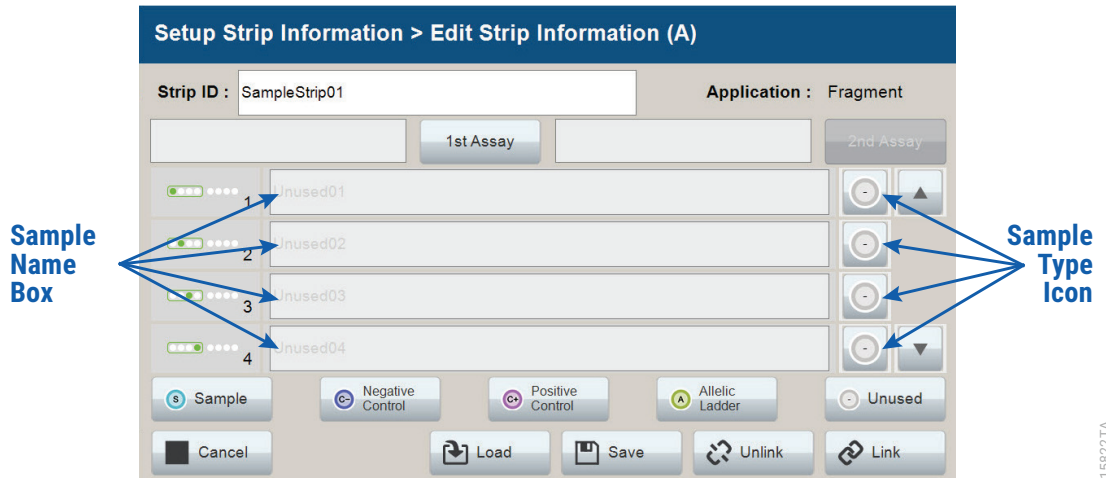
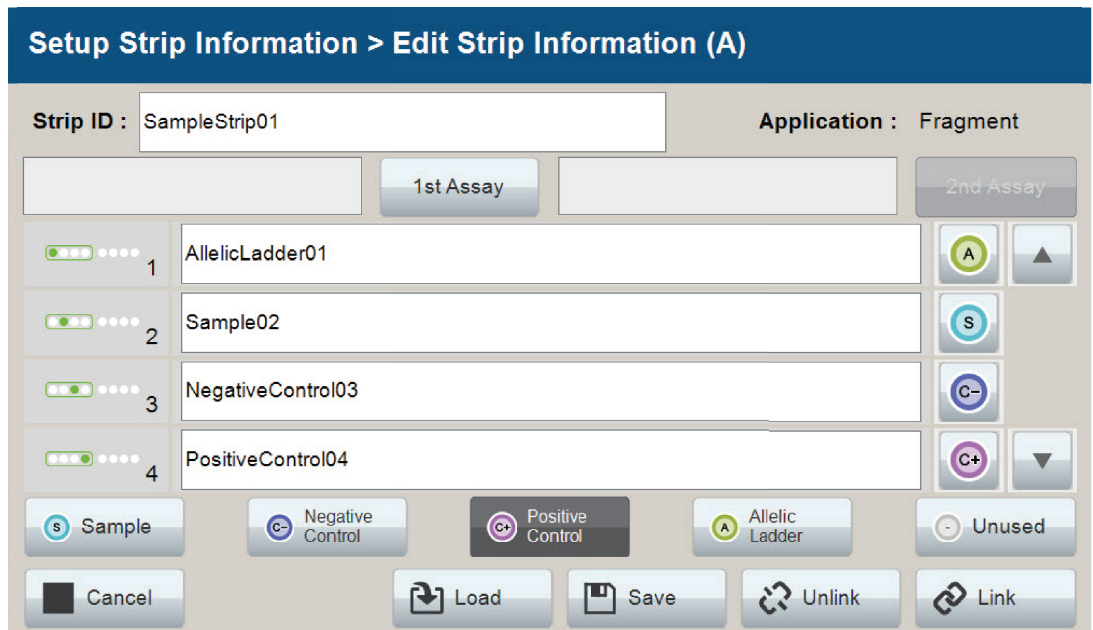
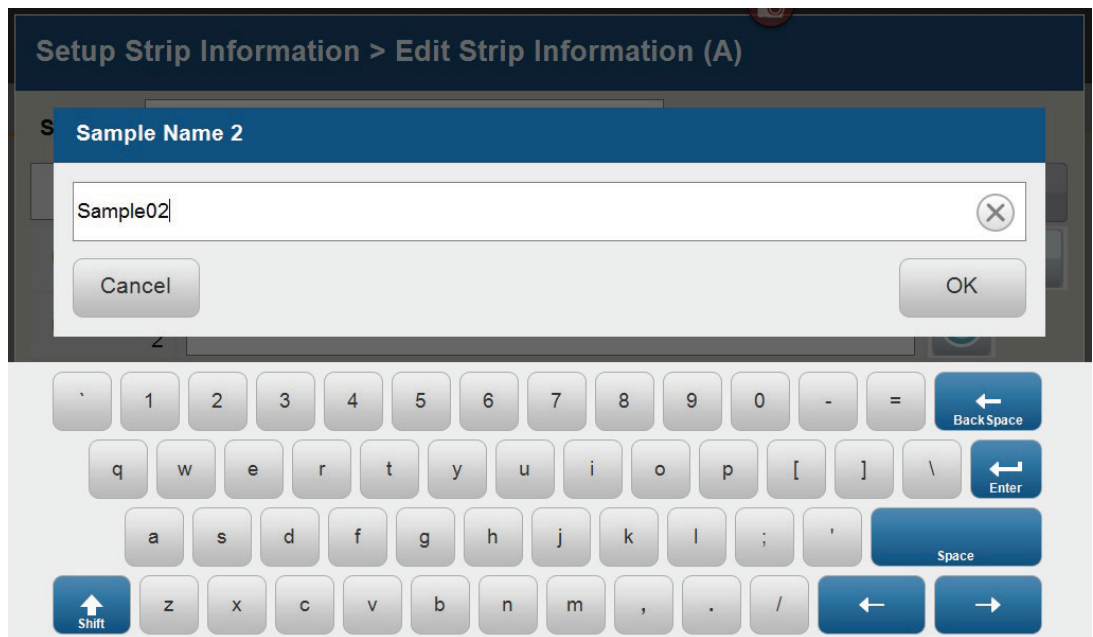
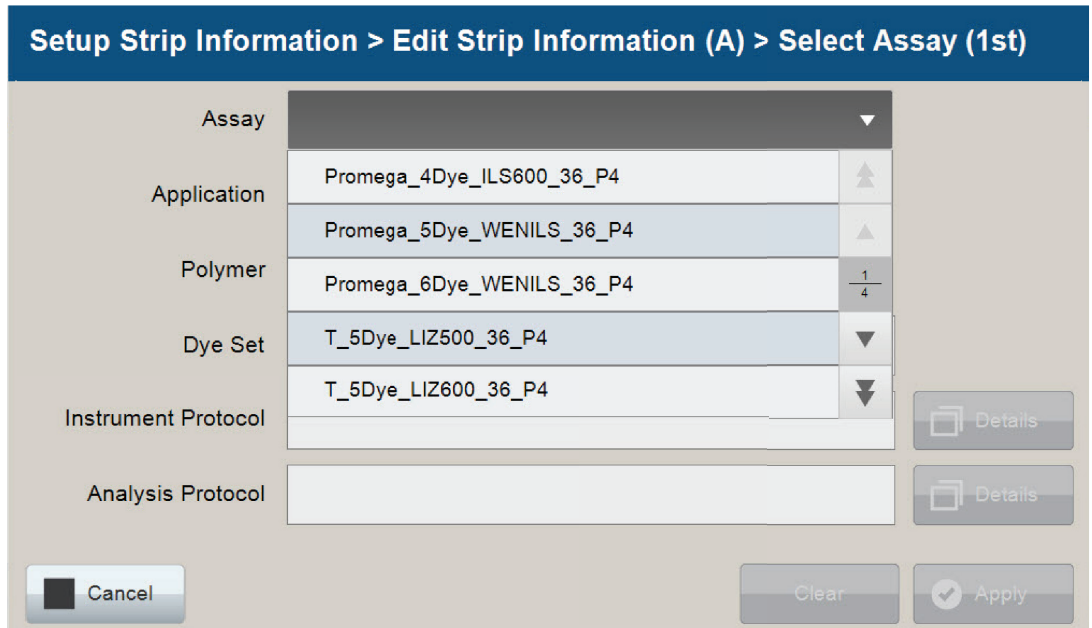

Figure 15. Sample Type and Sample Name on ‘Edit Strip Information’ screen.
Figure 16. Sample Name Entry on 'Edit Strip Information' screen.
Figure 17. 'Set Sample Name' window.
Figure 18. 'Select Assay' window.
4. Select a sample type on the ‘Edit Strip Information’ screen (Figure 15). Sample types must be selected for each well position before the Sample Name box becomes active for entry of sample name. Sample types are as follows.
5. To assign a sample type to a well, select the appropriate sample type along the bottom of the ‘Edit Strip Information’ screen (Figure 15), then select the **Sample Type** icon to the right of the sample name field for the desired well. This icon will then display the sample type selected for that well (Figure 16).
6. Enter a sample name for each well position by selecting the Sample Name box adjacent to the well number on the ‘Edit Strip Information’ screen (Figure 16). This opens the ‘Set Sample Name’ window and a keypad will become active on the touch screen (Figure 17). Alternatively, the Sample Name can be entered using a traditional keyboard if one is connected to the Spectrum Compact CE System. Enter the appropriate sample name, then select **OK** to exit and return to the ‘Edit Strip Information’ screen.
- The Spectrum Compact Control Software includes preloaded run assays for use with chemistries available from Promega. Refer to the *Spectrum Compact CE System Operating Manual* #TMD058 for information on creating or modifying assays. To assign a run assay to an injection set, select **1st Assay** on the right side of the 1st Assay field (Figure 16). This opens the 'Select Assay' window (Figure 18). Select "Promega_6Dye_WENILS_36_P4" from the drop-down list (Figure 18) and then select **Apply**.